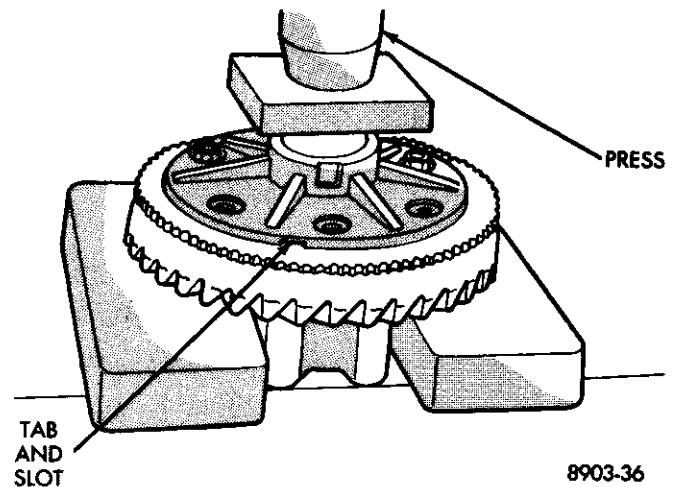

Fig. 22 Ring Gear Bolt Hole Alignment
(3) Press the exciter ring onto the differential case using the ring gear as a pilot (Fig. 22).